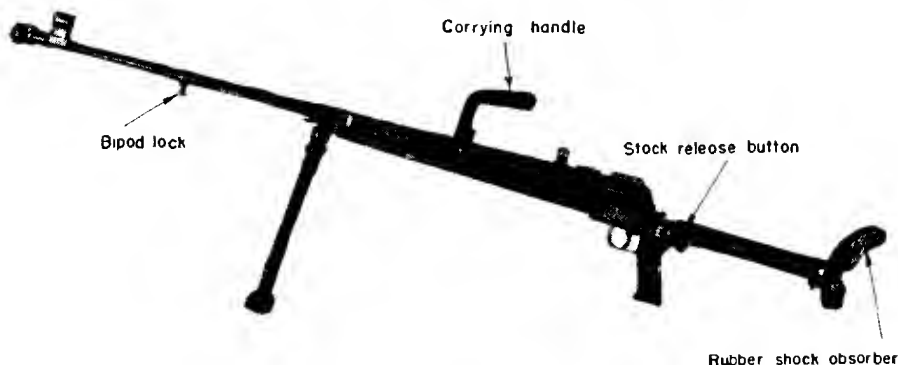

Figure 21.—*Pz.B.* 39 (antitank rifle).
Pz.B. 39, a later model of the *Pz.B.* 38. (See figs. 21 and 22.)
(2) *To load and fire*.—Press the bipod lock (see fig. 21), and adjust the height of the bipod by turning the adjusting screw located underneath the pivot point of the bipod. Press the stock release button and snap the shoulder stock into place. Move the safety lever to the “fire” position. Push the pistol grip forward and downward, thus depressing the breechblock. In-